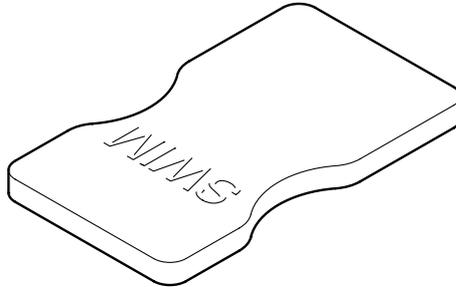

Fig. 1
- 1 Fig. 1 shows a swimming aid used by children.